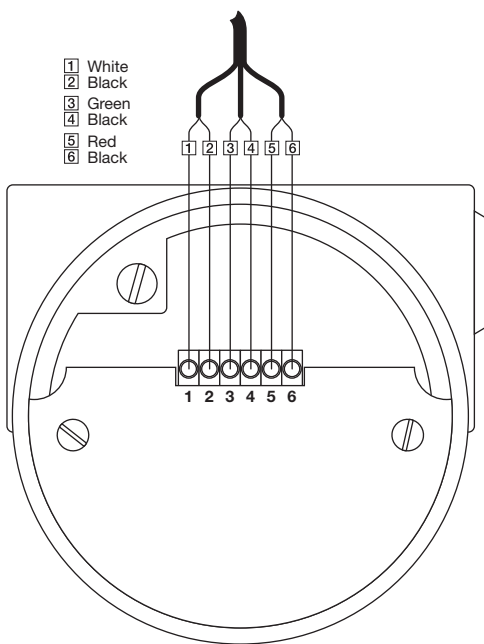

Figure 12
Wiring between the power supply and the E3 Modulelevel transmitter should be made using minimum of 18 AWG shielded twisted pair instrument cable. Wiring must be suitable for temperatures up to at least +85° C. Within the transmitter enclosure, connections are made to the terminal strip and the ground connections. When installing a remote mount E3 transmitter, refer to Figures 12 & 13 for wiring connections.
3. Connect one end of the six conductor cable (P/N 037-3226-xxx or 037-3227-xxx) to the integral terminal block and the other end to the terminal block within the remote terminal board housing. Be sure to match the six discrete numbered wires with the numbers on each terminal block. See Figures 12 & 13.